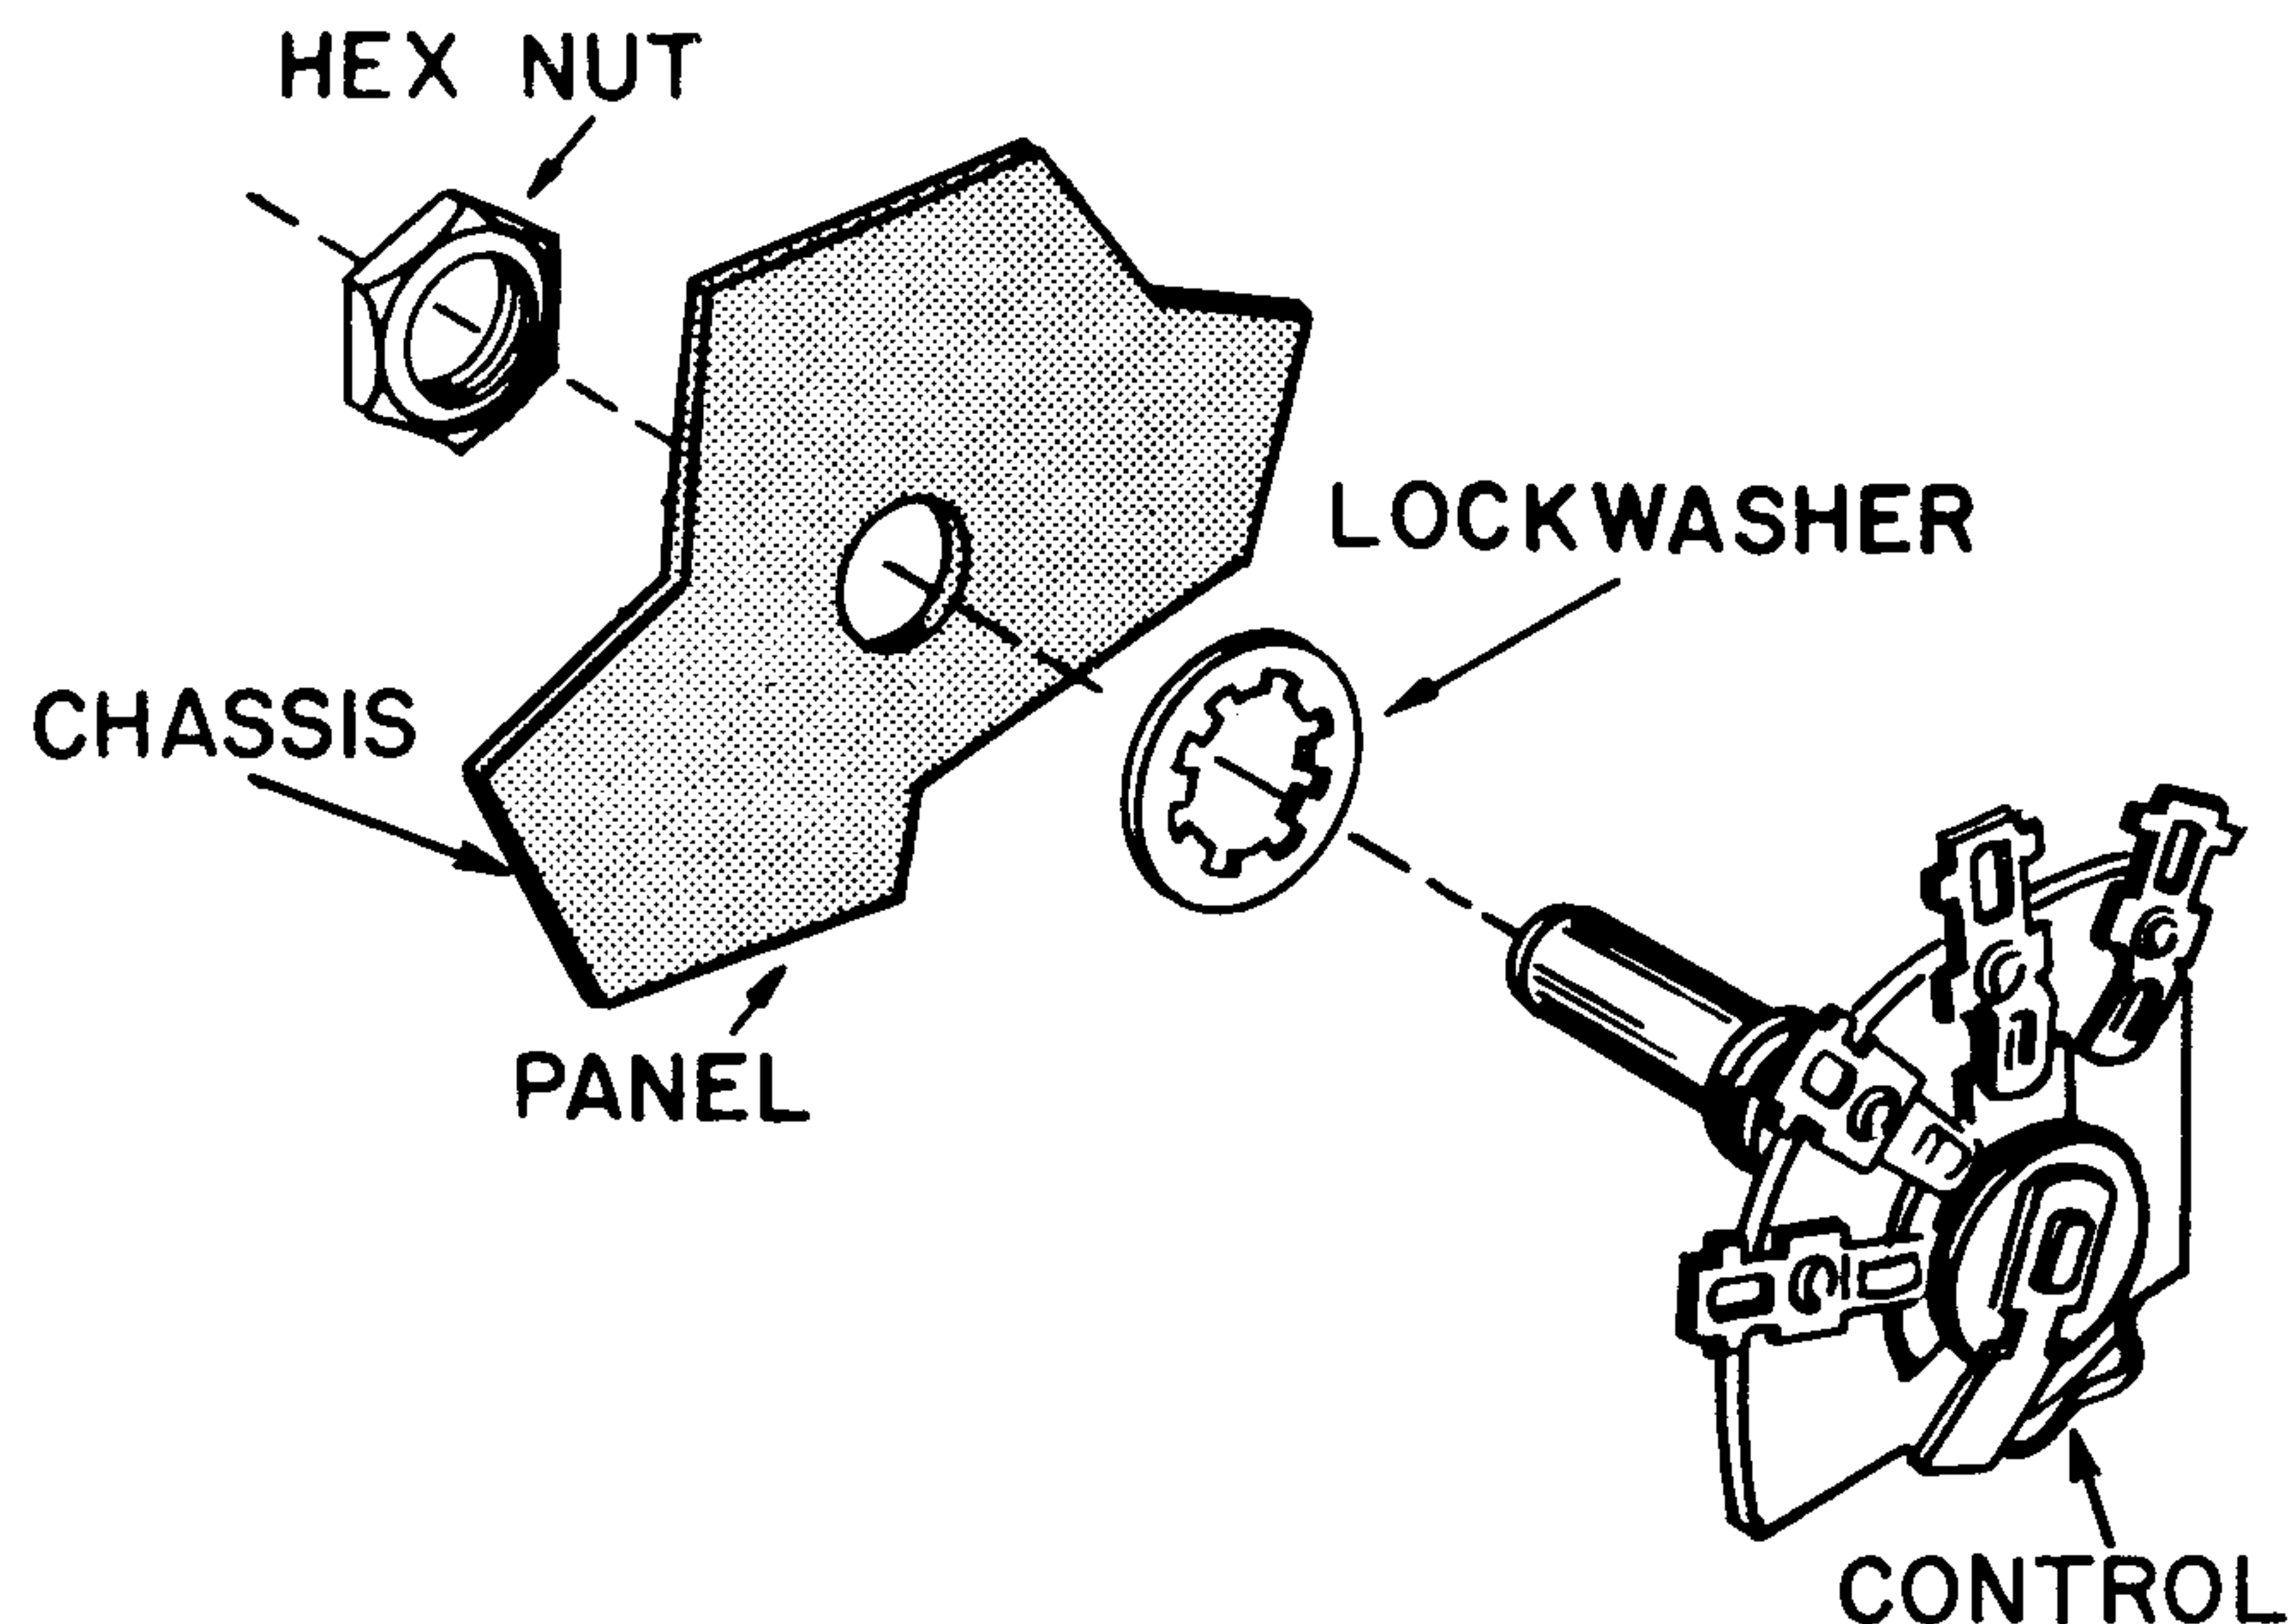

FIGURE 4. HOW TO MOUNT A CONTROL
- ☐ From inside the chassis, mount S-3, the BFO-MVC-AVC-ANL switch on the front. Use one $\frac{3}{8}$ " lockwasher and one nut. See Figure 4. Position the terminals as shown in Figure 3.
- ☐ Permanently mount R-2 and S-4 inside the chassis. Use hardware as shown in Figure 4. Carefully route the 9-conductor cable as shown in Figure 11. To protect S-4, do not allow the cable to pull on the switch.